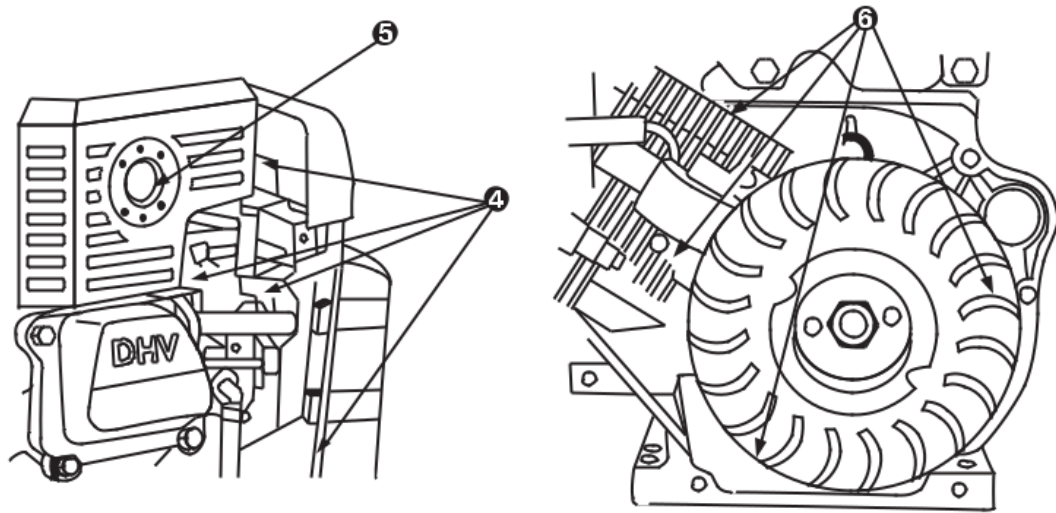

Figure 11
- * Every 100 hours or every season, remove the starter guard and clean the area shown in Figure 11.